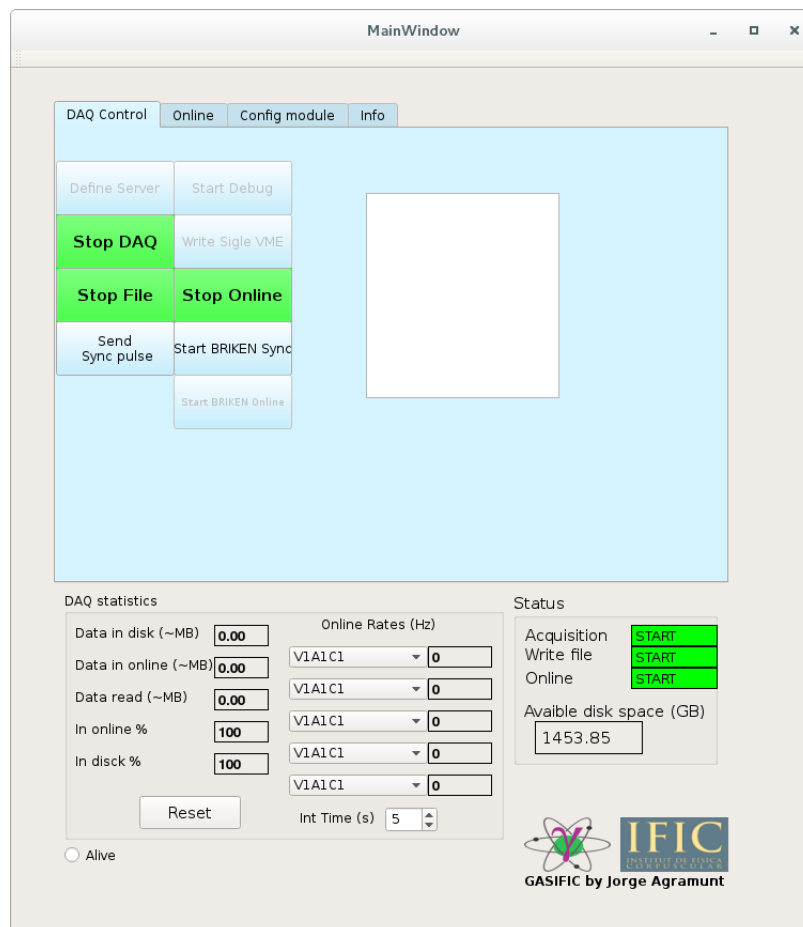

Figure 4. Gasific 7.0 DAQ Control panel.
See Fig. 4. Allows to start-stop the data transfer to the computer (*Start DAQ/Stop DAQ* button); to start-stop data writing onto disk (*Start File/Stop File* button: it prompts for a */path/filename* with default extension **.dlt*); and to start-stop the on-line analysis (*Start Online/Stop Online* button). In the lower part of the panel there are a few display boxes with useful information about the acquisition statistics: amount of data read from VME (in MByte), amount of data transferred to disk (both in MByte and as a percentage of data read), and amount of data analyzed online (both in MByte and as a percentage of data read). These values can be reset at any moment with an ad-hoc button (*Reset*). There are also up to five user defined on-line analysis ratemeters for individual acquisition channels. The rate is averaged over a user defined integration time *Int time (s)*. The total *Available disk space (GB)* is also displayed. The panel contains also a *Send Sync pulse* button, which generates a signal available at the LEMO output #2 of the SIS3100 module and can be sent to all digitizers in order to reset (and thus synchronize) the time stamp counters.